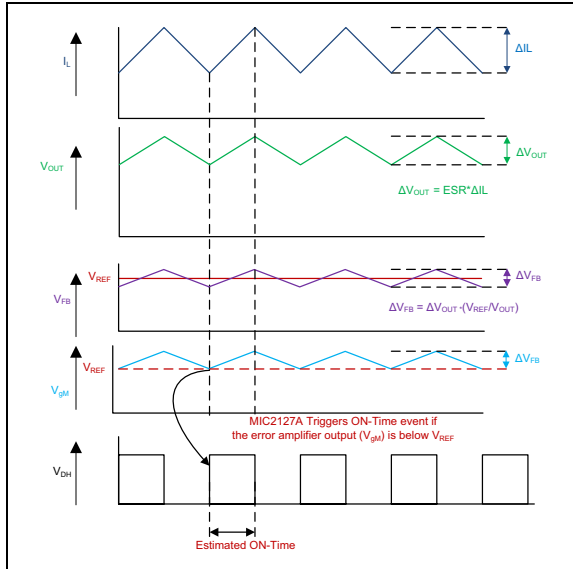

FIGURE 4-1: MIC2127A Control Loop Timing.
The MIC2127A is an adaptive on-time synchronous buck controller that operates based on ripple at the feedback node. The output voltage is sensed by the MIC2127A feedback pin (FB) and is compared to a 0.6V reference voltage (V_{REF}) at the low-gain transconductance error amplifier (g_M), as shown in the Functional Block Diagram. Figure 4-1 shows the MIC2127A control loop timing during steady-state operation.